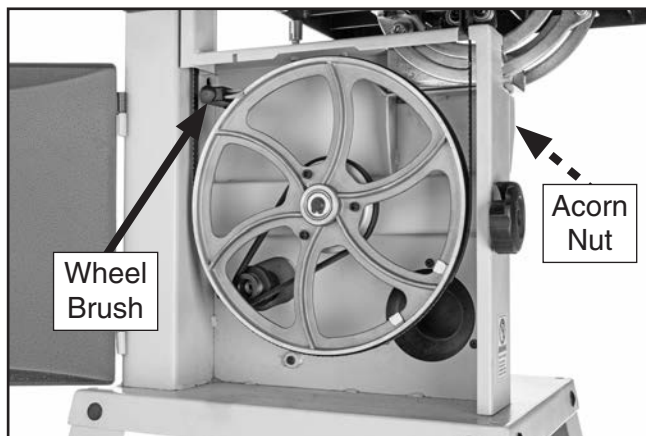

Figure 76. Location of wheel brush.
The lower wheel has a brush (see **Figure 76**) that is designed to sweep sawdust off the tire and blade during operation. In order to work properly, the brush must make firm contact with the tire.
3. On rear of machine, loosen acorn nut that secures wheel brush in position (see **Figure 76**).